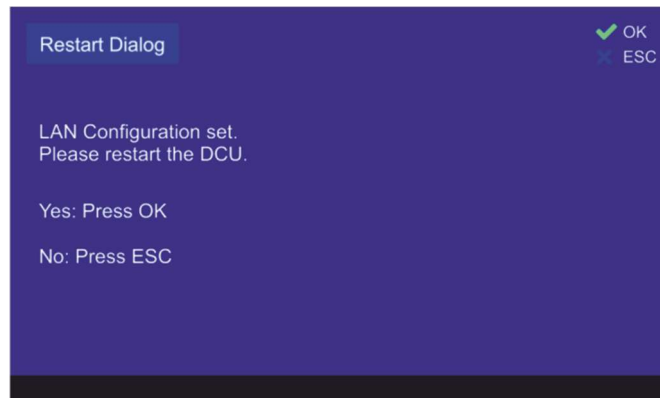

Figure 153. Restart dialog
- After confirming the changed settings on the top level of the dialog, a dialog for restart the system is opened (s. Figure 153).